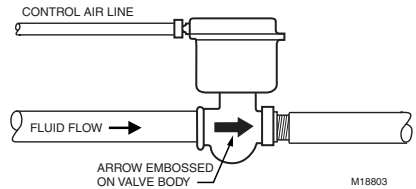

Fig. 1. Valve installation (straight-through pattern shown).
When installing the valve, allow space for the actuator removal and service. See Fig. 1 and 2. Refer to Table 1.
1. Install the valve as shown in Fig. 1.